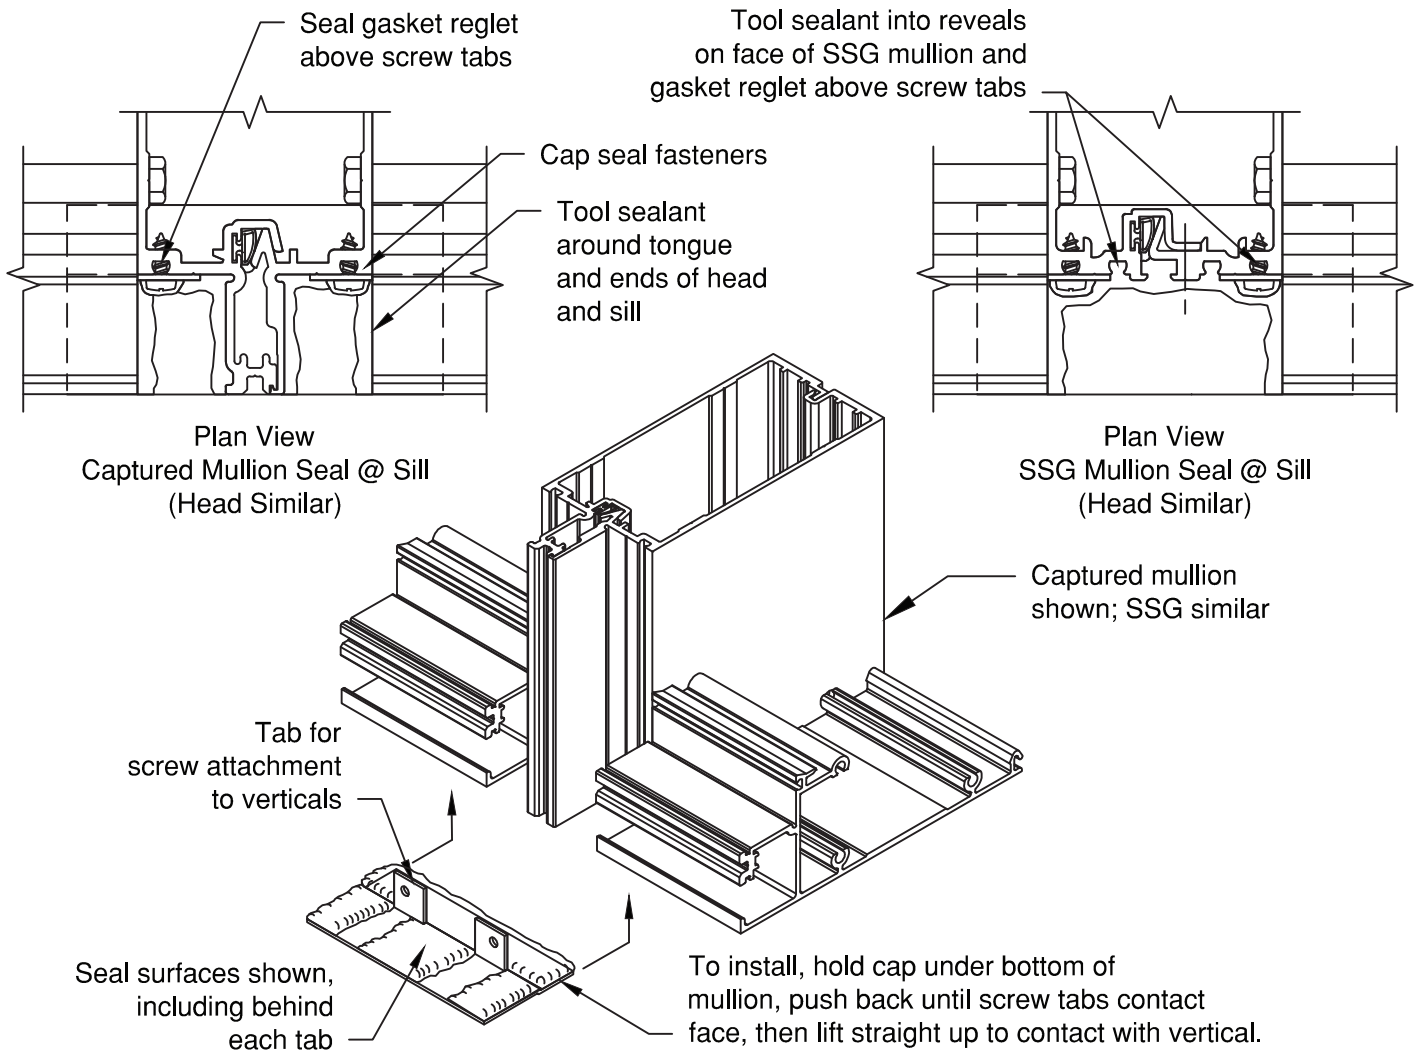

Figure 21
3.9 Prior to installing mullion caps at top and bottom of all intermediate verticals, seal end caps thoroughly. Install onto mullion with (2) FS-202 #8 x 1/2" Phillips Pan Head screw. **SEE FIGURE 21, page 19.** Tool sealant and cap seal all screws. **THIS IS A CRITICAL SYSTEM SEAL.** Use care when installing mullion end caps to ensure that the bulb gasket seal (step 3.3) is married with the end cap seal.